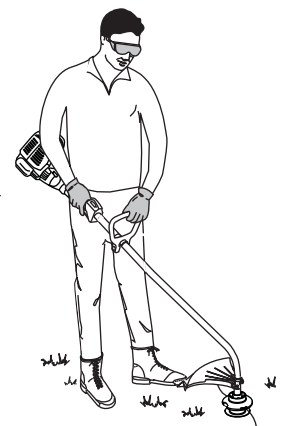

Fig. 12
4. While holding the unit in the operating position (Fig. 12), position the D-handle to the location that provides you the best grip.
Before operating the unit, stand in the operating position (Fig. 12). Check for the following: